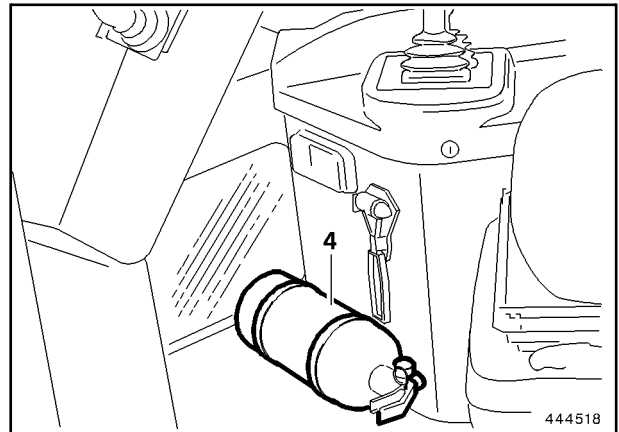

Fig. 5
- The fire extinguisher (4, Fig. 5) can be fastened with clamps to the right column of the cab structure.